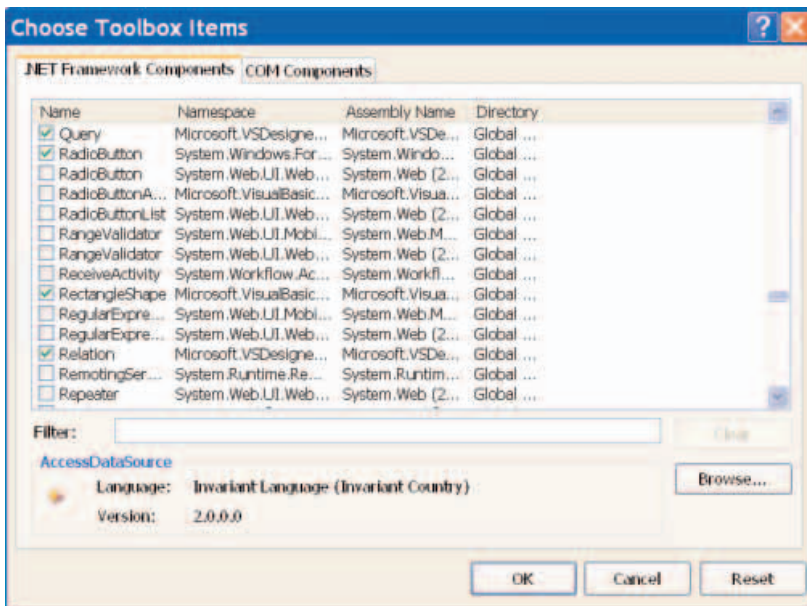

Fig.1. The Shape components will not be loaded automatically when using the Express edition, but they can be loaded manually under their individual names
However, it is true that installing this software will not result in the new components automatically appearing in the relevant section, as will normally happen with the full version, but they can be loaded manually. I had, in fact, tried to do this, but made a mess of quite a simple process. It is just a matter of going to the Tools menu and choosing Select Toolbox Items. This produces a popup window (Fig.1) where the checkboxes for the three individual Shape components must be ticked.
A LOW component count, easy to construct and compact circuit of a general-purpose infrared (IR) proximity detector switch is shown in Fig.1.
Fig.1. Circuit diagram for the general purpose Infrared Proximity Switch. Note that IC1 pins 5 and 6 are the timing element pins and that pins 1 and 2 are the output filter and low-pass filter pins respectively